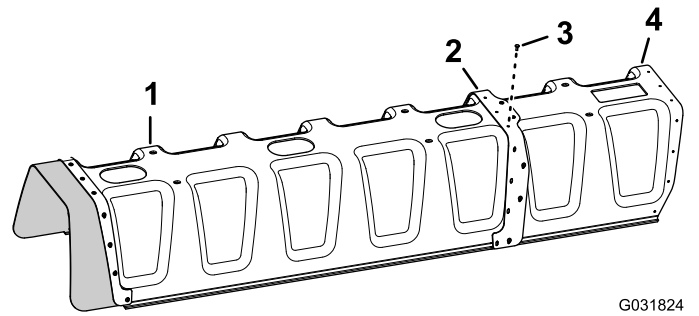

Figure 148
- 4. Secure the cover extension to the 11-nozzle section cover (Figure 148) with 11 pop rivets (Toro Part No. 114439).